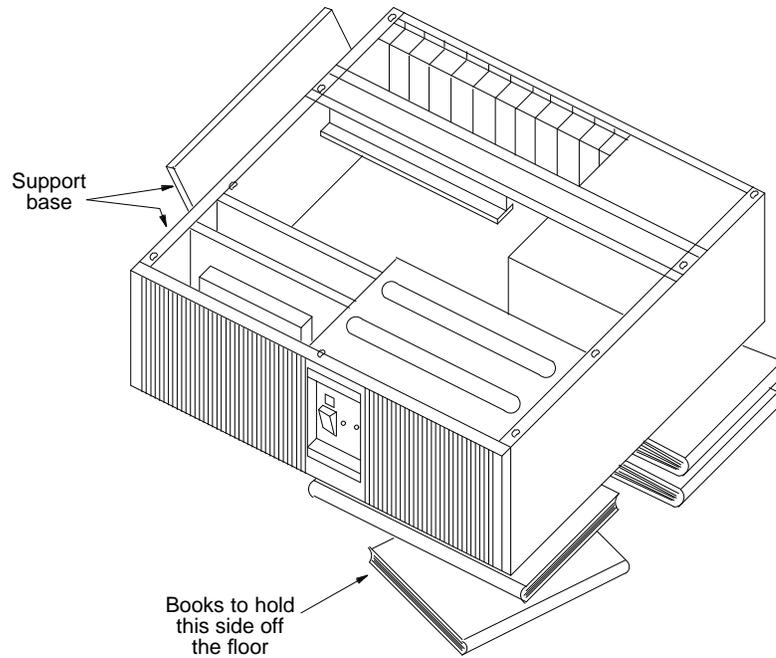

Figure 5-3. Working Within the Card Cage - Floor Position
2. Turn the MAP/40 on its side, resting the side of the computer opposite from the support base on the two books. See Figure 5-3.